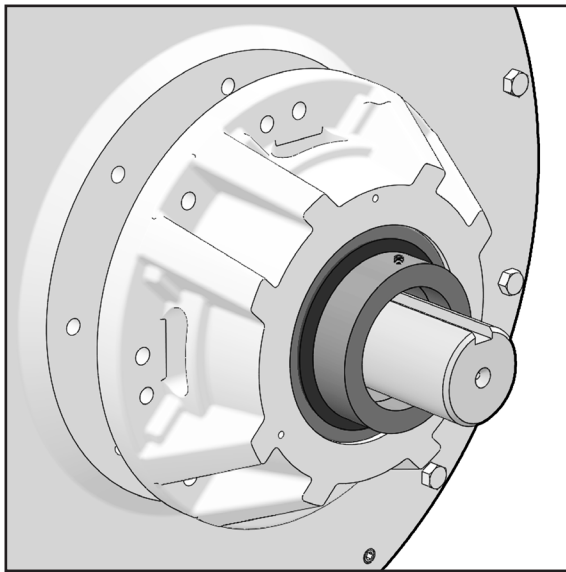

FIGURE 16
23. Slide cartridge gently by hand as far as possible onto rotor shaft (Figure 16)).